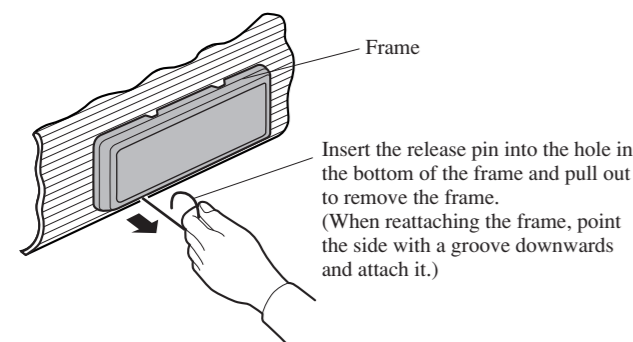
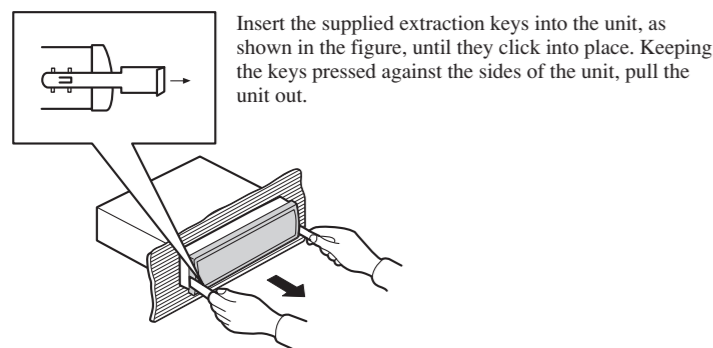

Fig. 8
Fig. 9
**Removing the Unit (Fig. 8) (Fig. 9)**